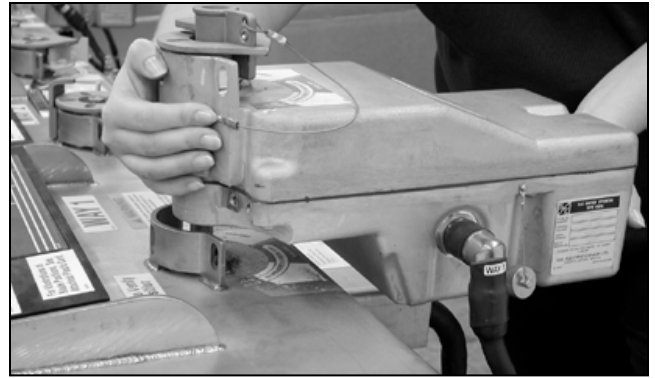

Figure 96. The motor operator placed over the operating shaft on the gear.
**STEP 1.** Place each motor operator over the operating shaft on the gear. See Figure 96.